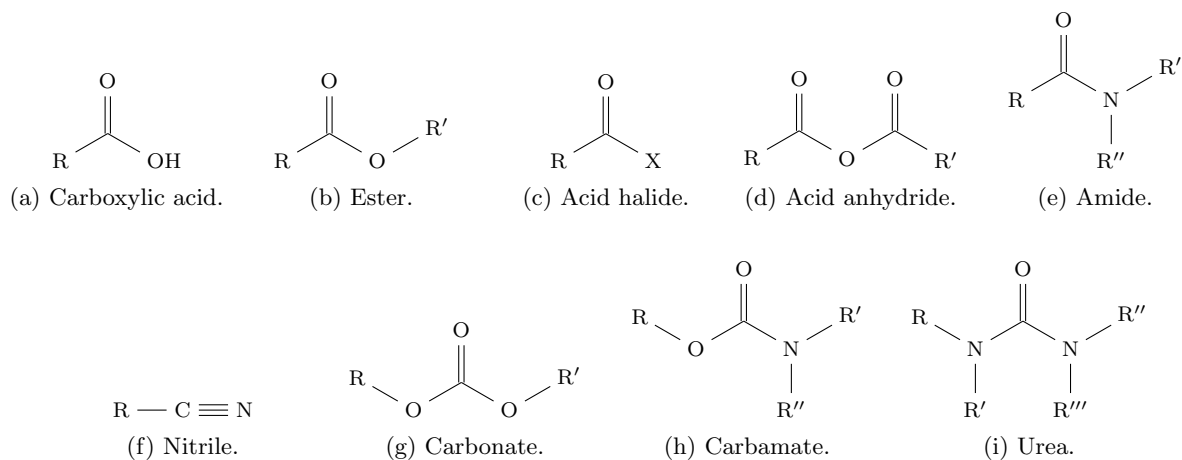

Figure 17.1: Carboxylic acid derivatives.
- Think of all of the carboxylic acid derivatives (see Figure 17.1) as containing a leaving group on one of their sides.